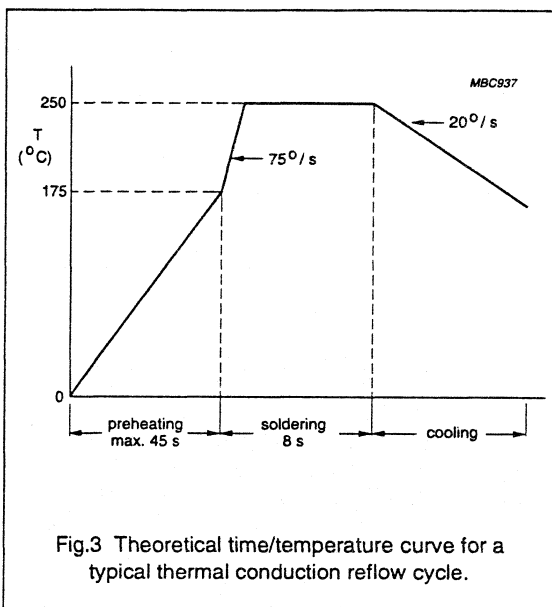

Fig.3 Theoretical time/temperature curve for a typical thermal conduction reflow cycle.
2. Push the short end of the clip into the narrow slot in the heatsink with the clip at an angle of 10° to 30° to the vertical. See figures 3 and 4.
The prepared substrates are carried on a conveyor belt, first through a preheating stage and then through a soldering stage. Heat is transferred to the substrate by conduction through the belt. Figure 3 shows a theoretical time/temperature relationship for thermal conduction reflow soldering. This method is particularly suited to thick film substrates and is often combined with infrared heating.